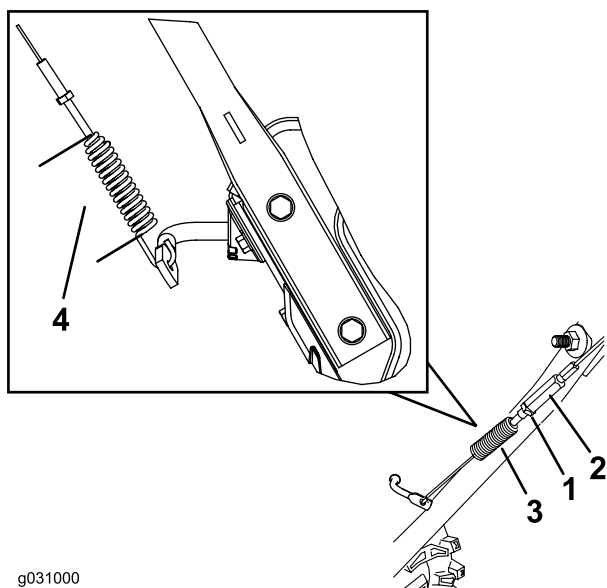

Figure 34
3. Loosen or tighten the turnbuckle to adjust the spring length to 7 cm (2-3/4 inches) as shown in Figure 34.
4. Tighten the jam nut (Figure 34), ensuring that there is slight tension on the cable.